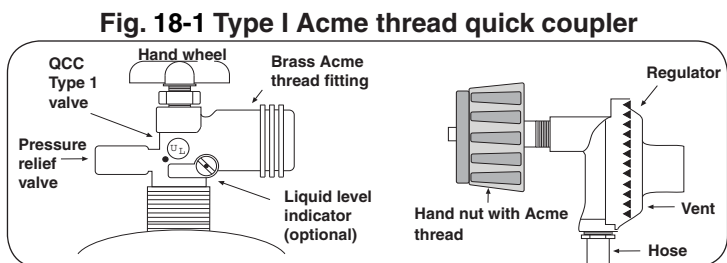

Fig. 18-1 Type I Acme thread quick coupler
- The pressure regulator and hose assembly (Fig. 18-1) supplied with this outdoor gas appliance (L.P. models only) must be used. Original and replacement pressure regulator and hose assemblies must be those specified by the manufacturer for connection with a cylinder connecting device identified as Type I by the *ANSI Z 21.58-2005/CGA 1.6-2005* (see PARTS LIST for ordering information).
To disconnect: Turn the hand nut counterclockwise until detached (Fig. 18-1).